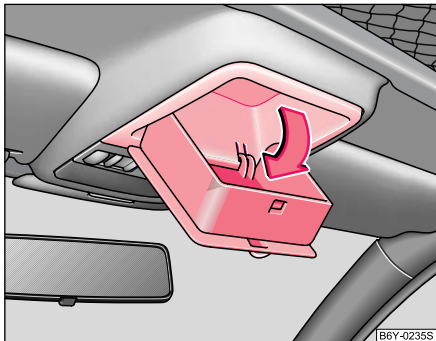

Fig. 170 Detail of the headliner: The fold-away storage compartment
- The fold-away storage compartment is opened by folding it out in the direction of the arrow ⇒ fig. 170.